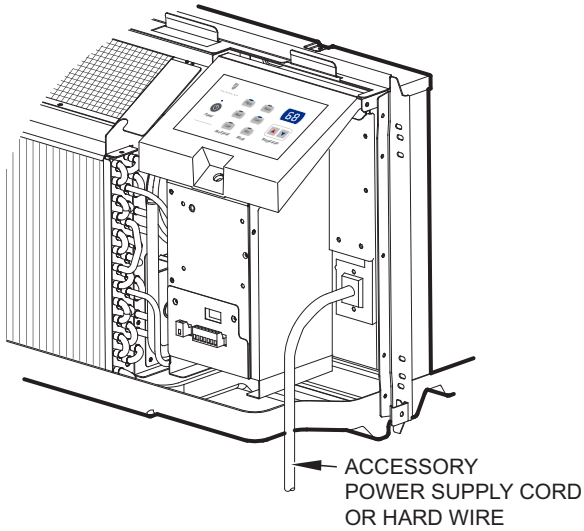

Figure 4a (PDE/ PDH Models)
4. Plug cord into connector. See figures 4a and 4b.